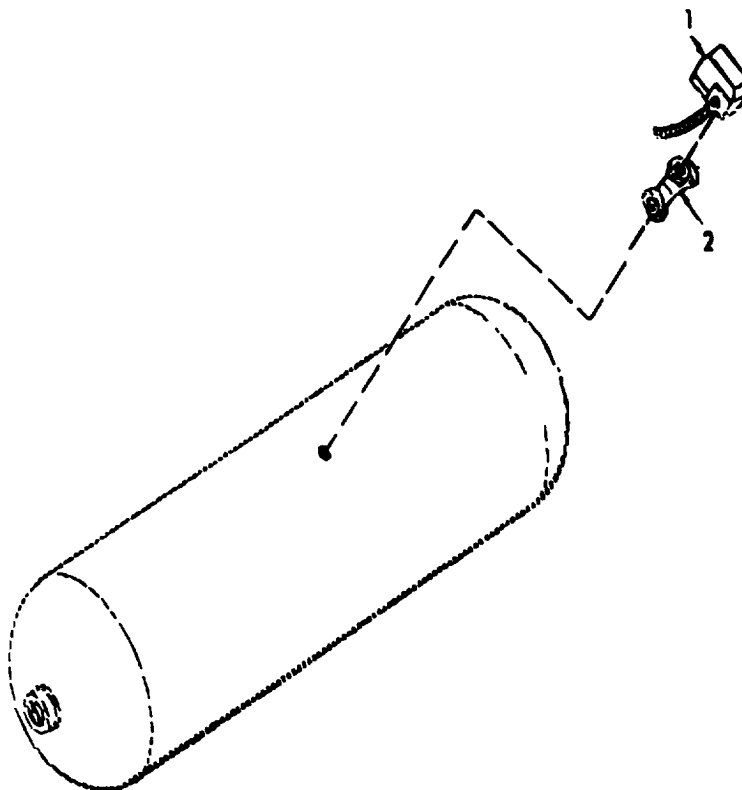

Figure 5-2. Pressure Switch, Removal/Installation.
**a. Removal.** (Refer to figure 5-2.)
- (1) Tag and disconnect all wiring and cable attached to pressure switch (1).
- (2) Unscrew pressure switch (1) from pipe cross (2).